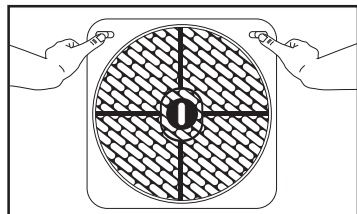

Fig. 1
1. Open the rear grill by gently pushing the release tabs toward the outside of the unit. See Fig. 1